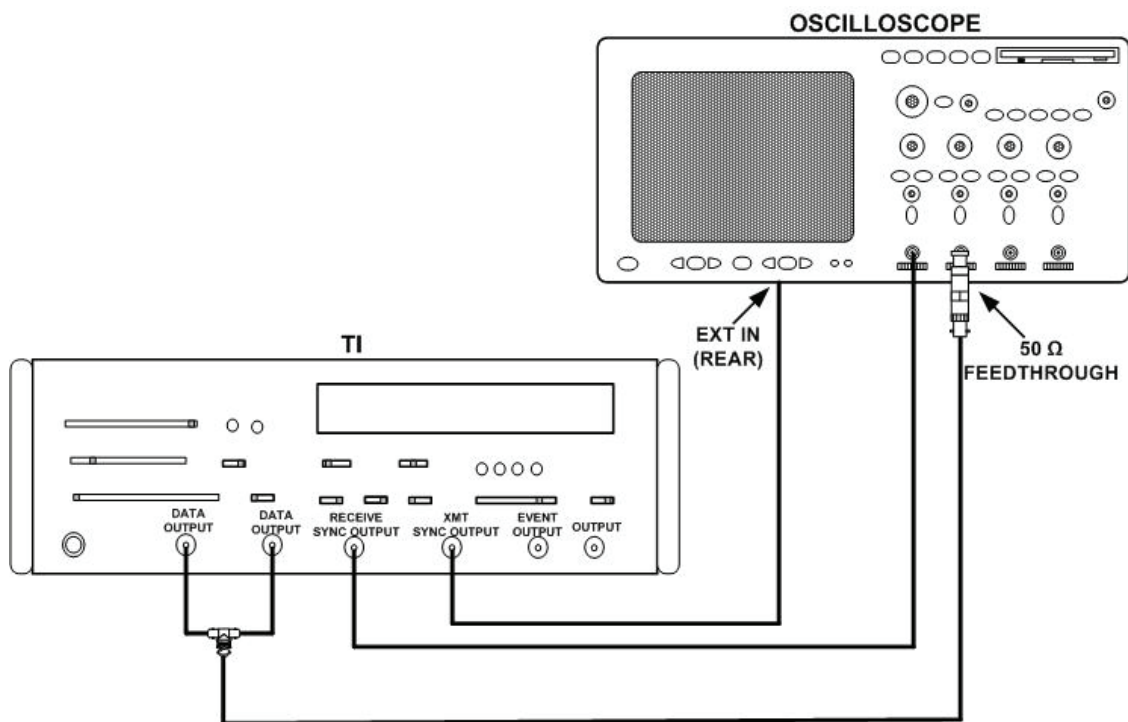

Figure 2. Transmit - equipment setup.
- (1) Set TI as listed in (a) through (g) below:
- (2) Connect equipment as shown in figure 2.